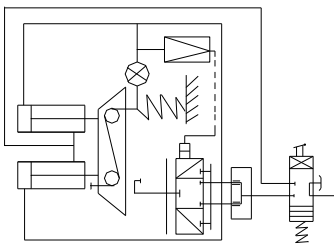

Figure 5, Servo synchronization loop
5. When the high precision synchronization is required, you can use the self regulating synchronous valve and servo valve together, or use the new digital electrically controlled synchronous valve, the error can be controlled at about 0.5-1.5%FS. Referring to figure 5.